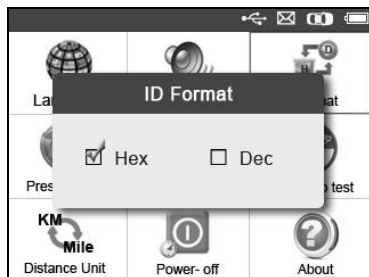

Figure 3.5
- 2) From **ID Format** screen, use the **LEFT/RIGHT** scroll button to select the desired format of ID. (Figure 3.5)